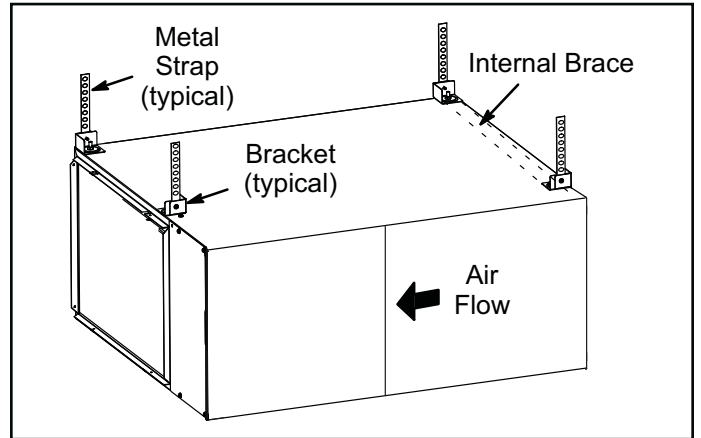
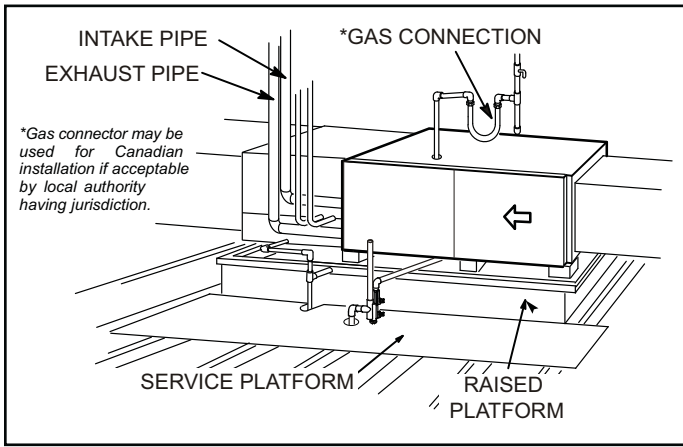

Figure 12. Horizontal Suspension Kit
Figure 13. Platform Installation
This furnace may be installed in either an attic or a crawlspace. Either suspend the furnace from roof rafters or floor joists, as shown in Figure 12, or install the furnace on a platform, as shown in Figure 13.
2. Construct a raised wooden frame and cover frame with a plywood sheet. If unit is installed above finished space, install an auxiliary drain pan under unit. Set unit in drain pan as shown in Figure 13. Leave 8 inches for service clearance below unit for condensate trap.